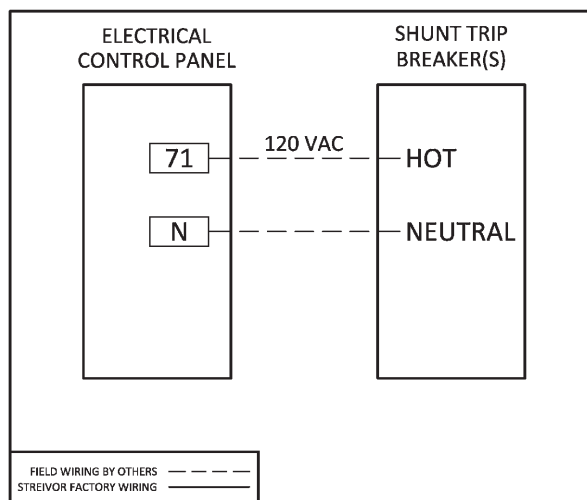

FIGURE 11: Shunt Trip Wiring (Optional Method)
- Terminal block 71 can be used to provide power to a shunt trip device to comply with NFPA 96 Section 10.4.1. Terminal block 71 provides 120 VAC power upon fire suppression system activation (Figure 11).